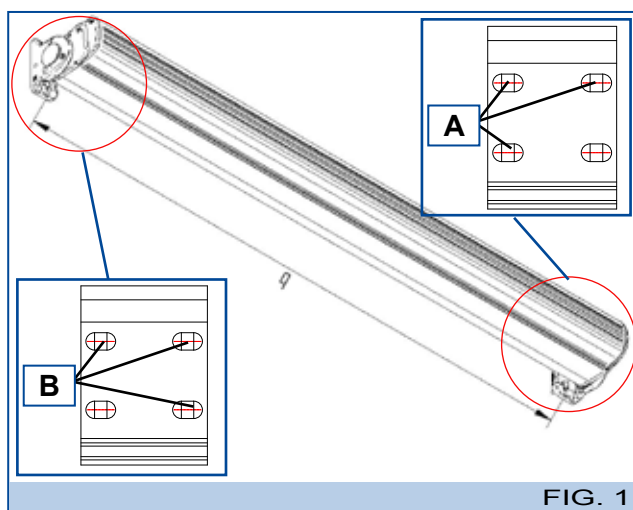

FIG. 1
- 3° The position of the holes is as shown in figure 1. For the right bracket use the holes (A), for the left bracket use the holes (B).